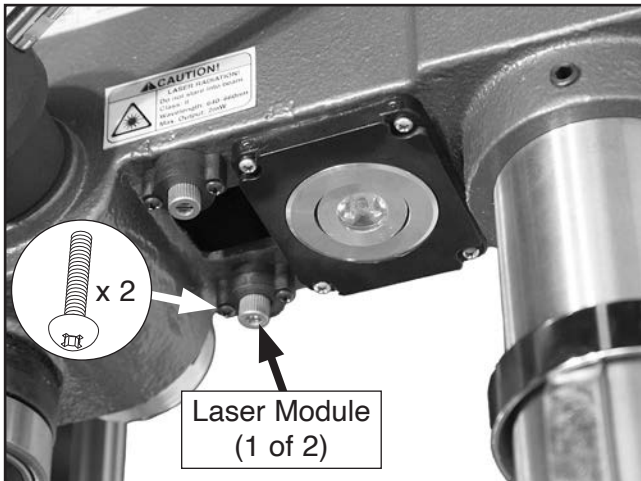

Figure 49. T33959/T33960 laser module adjustment components.
7. Loosen (2) Phillips head screws shown in **Figures 49–50**, then adjust laser modules by hand, positioning them so crosshairs align with indentation you made in **Step 5**.